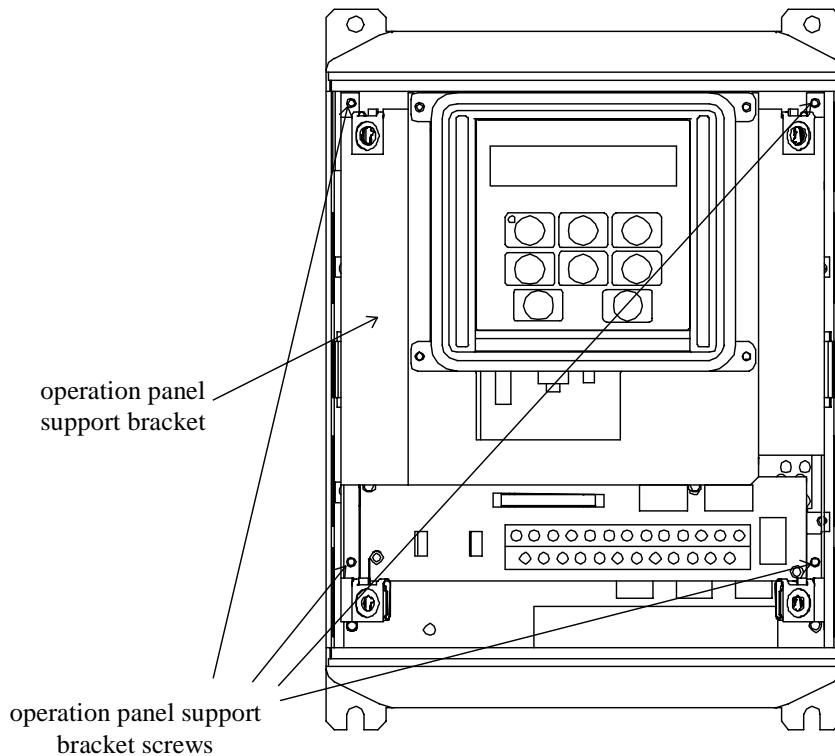

Figure 1: G3 with front cover removed
4. Loosen the 4 screws attaching the G3's operation panel support bracket to the control board support bracket, and then remove the operation panel and support bracket as a unit (refer to Figure 1).